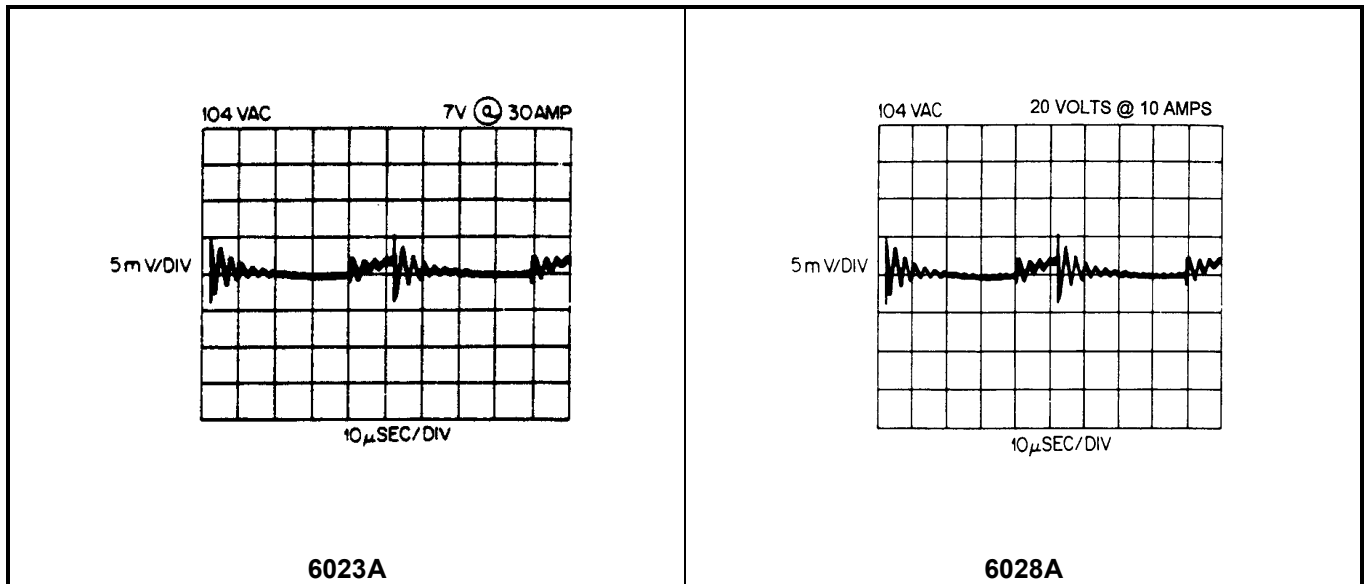

Figure 2-6. 20KHz Noise, CV Peak-to-Peak PARD
- e. Set the oscilloscope's input impedance to 50Ω and bandwidth to 20MHz. Adjust the controls to show the 20KHz and higher frequency output-noise waveform of Figure 2-6.